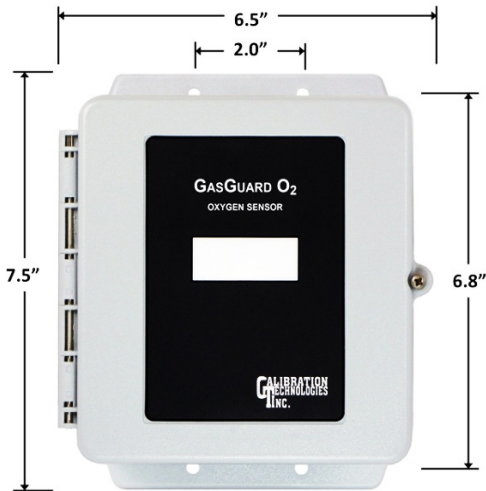

Figure 1: Enclosure dimensions
- Mount sensor enclosure through the mounting holes as shown in **Figure 1**.